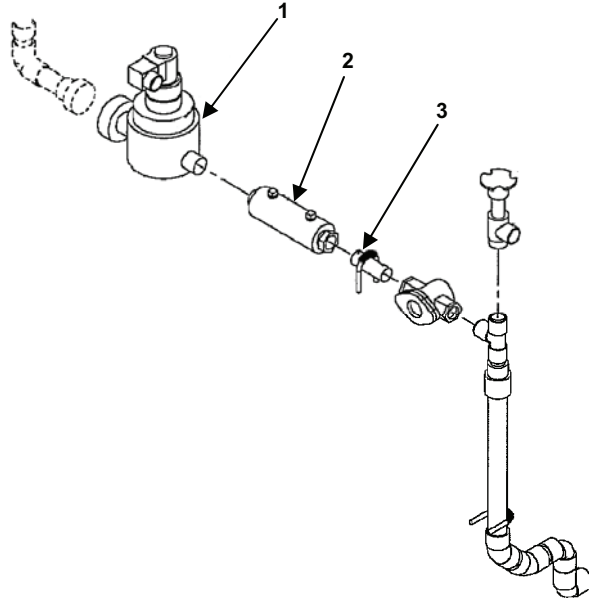

Figure 2. Flow Controller (5 GPM).
2. Remove flow controller (Figure 2, item 2) from the solenoid valve (Figure 2, item 1) and adapter (Figure 2, item 3).